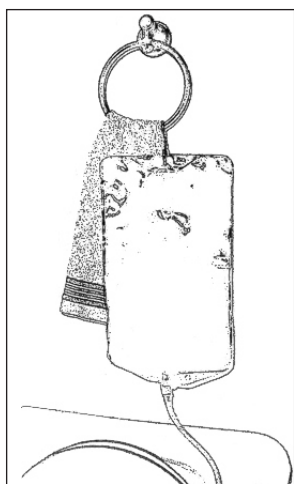

Figure 1
2) Secure Drain Bag in an elevated position above your Anchor. (Figure 1)